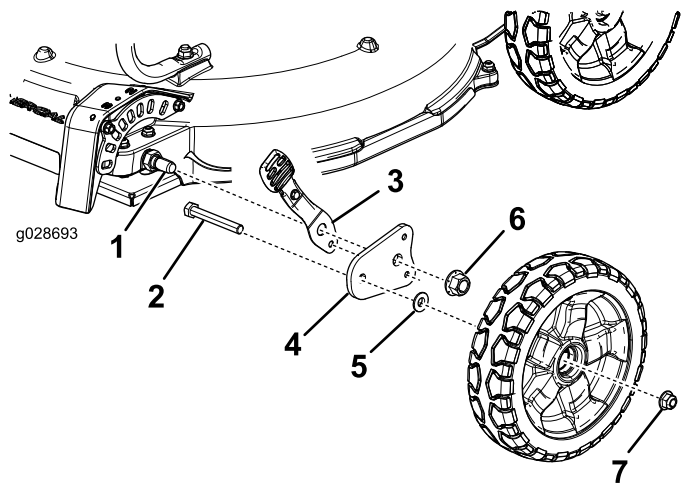

Figure 3
5. Install the bolt (3/8 x 2-3/4 inches) into the new front pivot arm from the inside as shown in Figure 3.
6. Install the spring arm and the new front pivot arm (with the bolt—3/8 x 2-3/4 inches) and secure them with the locknut (Figure 3).
7. Install the wheel spacer and wheel onto the machine and secure them with the flange nut (Figure 3).